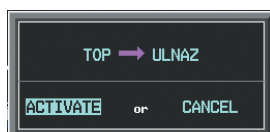

Figure 5-115 Confirm Active Leg
- c) Select the **ACT LEG** Softkey. The confirmation window is now displayed as in Figure 5-115. Note the TOP to ULNAZ leg is actually part of V4.